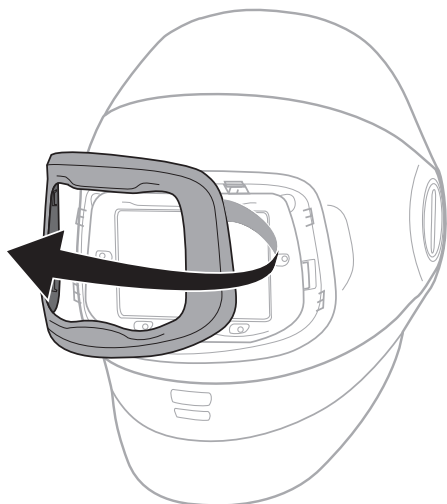

Fig. 21a
- a. While looking at the front of the welding helmet, grasp the silver frame on your right side and pull away from the welding helmet. The frame will pop off (Fig. 21a).